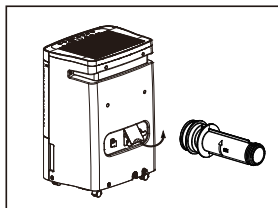

fig. 1
- a. Open the drain cover at the back of the unit and take out the drainage joint from the accessory package. (fig.1)